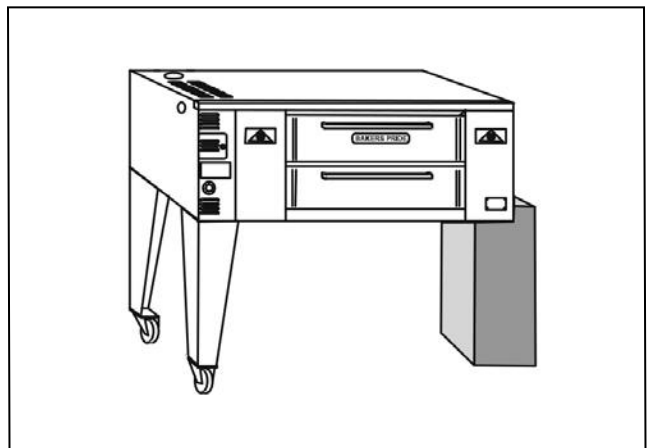

Figure 6
- c) Using proper lifting equipment, raise the back side of the oven to a height slightly Figure #3 higher than the height of the legs, remove the skid and place a sturdy support under the back side (See Fig.6). Mount other two legs and tighten bolts. Lift the oven and remove the supports.